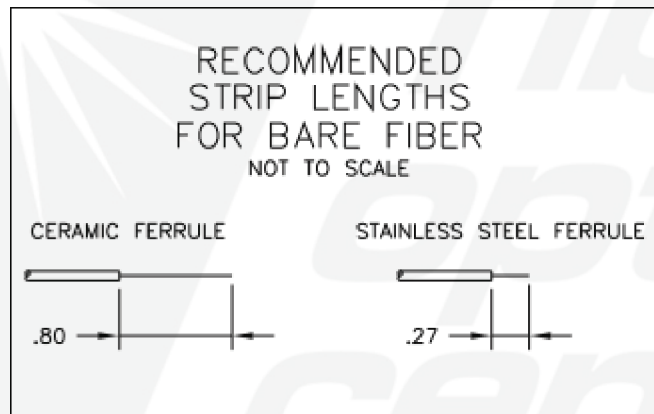

Figure 20: Bare fiber strip lengths for various connector types - SMArt, ST, FC, and SC.
2. Use Figure 20 below to determine the proper strip length for the bare fiber.